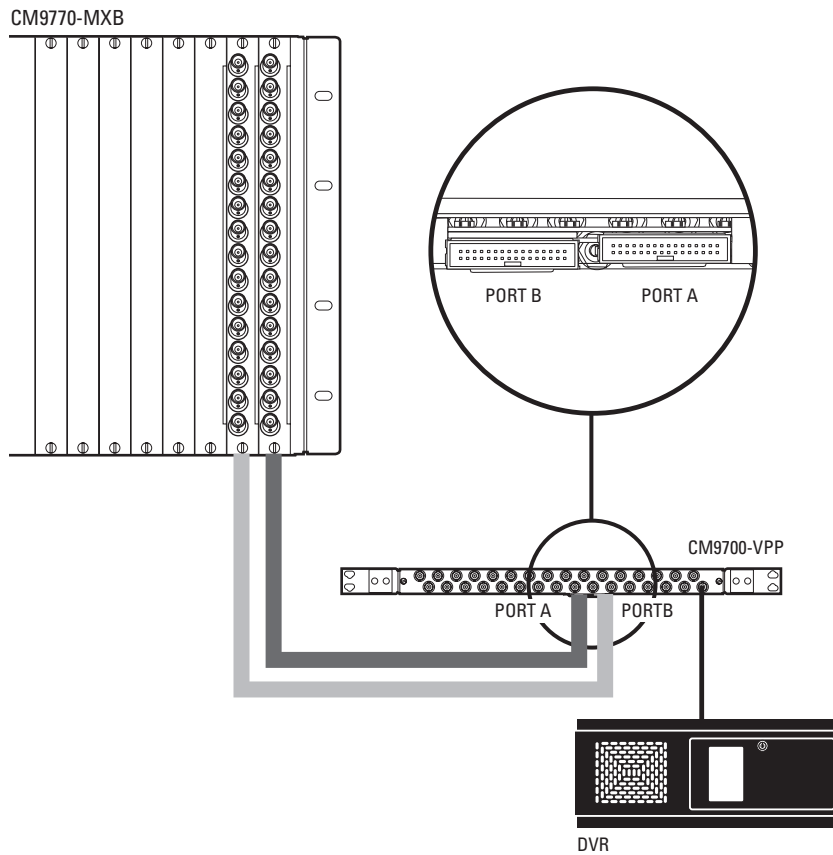

Figure 10. Looping Video Out from the CM9770-MXB
- In a system containing 32 monitors or fewer (the video is not downframed), use the CM9700-VPP panels to loop the video out. Connect the DFC cables that are provided with the VPP panel to the connectors on the bottom of the matrix bay RPC cards, as shown in Figure 10.